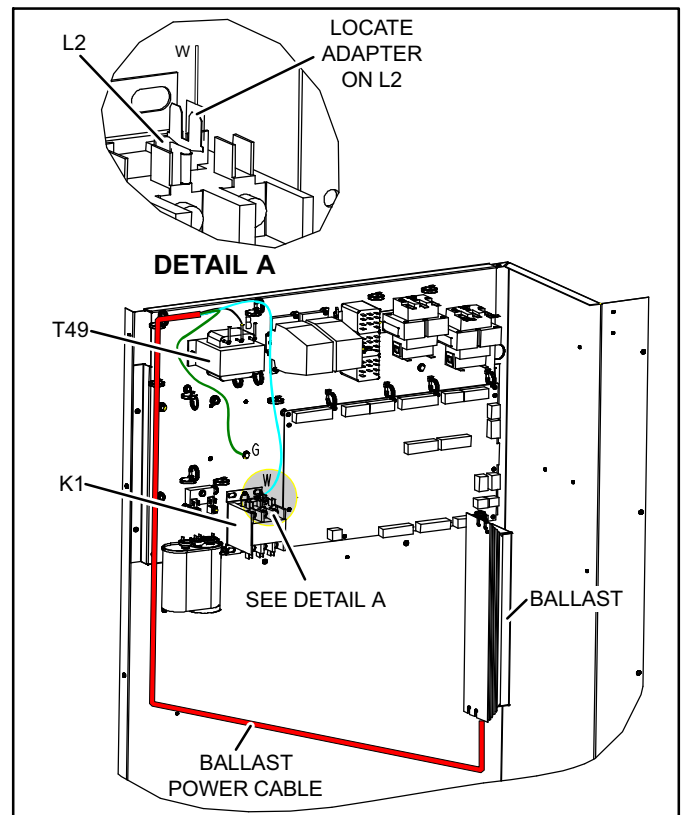

Figure 7. Connect cable to Step-down Transformer T49 (460/575 Volt units)
- C** For 460V or 575V rooftop models without T3 transformer (NO gas heat), install new step-down transformer T49 (ordered separately) (460/230, 75VA minimum or 575/230, 75VA minimum) (see figure 7). Connect the black conductor of the ballast power cable to the black conductor of the T49 transformer. Connect the white conductor of the ballast power cord to the L2 terminal of the K1 contactor using the adapter provided in the kit. Connect the green GROUND ring connector to the extruded hole on the panel (see figure 7).